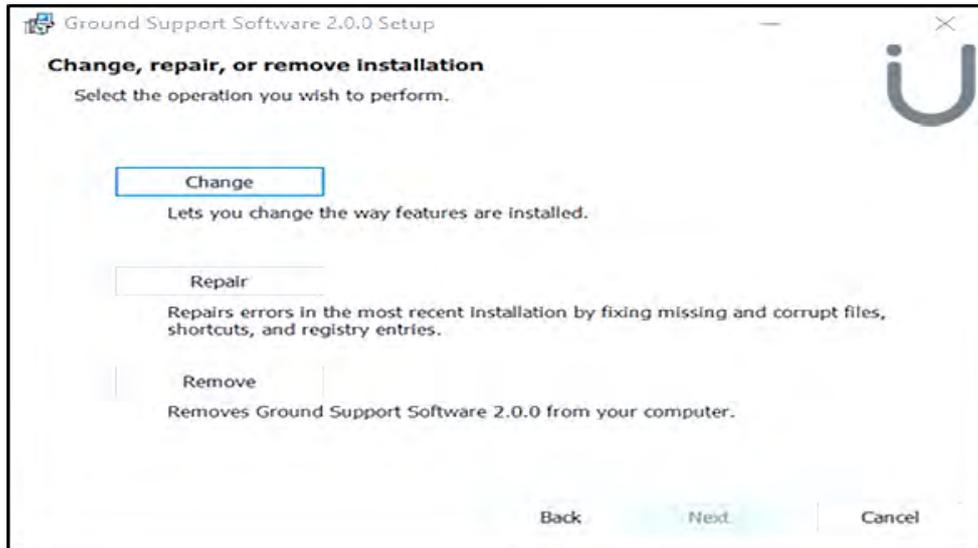

Figure 3-2 Change
- (f) Select change in the Ground Support Software 2.0.0 Setup window (**Ref Fig 3-2**).